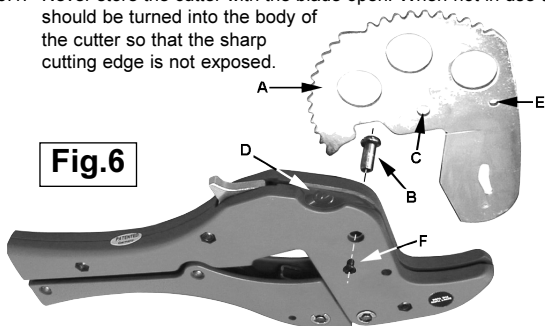

Fig.6
3.4.5. Slide the new blade (See fig.6-A) into the body of the cutter ensuring that the spring lies correctly at the side of the blade (See fig.6-D) and align the pivot hole in the blade (See fig.6-C) with the blade bush hole in the cutter body.
3.4.6. Insert the blade bush (See fig.6-B) and retain it with the blade screw (See fig.6-F).
3.4.7. Using a pair of long nosed pliers stretch and hook the spring back into the attachment hole in the blade (See fig.6-E).